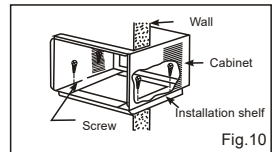

Fig.10
- 5) Fit the air conditioner cabinet securely to the installation shelf / mounting bracket (not included) with screws.(Fig.10)